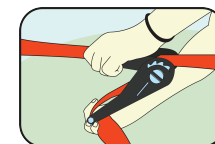

Figure 7
- Once line is pulled tight, start ratcheting by moving the handle back and forth until you cannot pull any tighter and the handle is stationary. The ratchet should be underneath the line when complete, and your line should be tight (Figure 7).